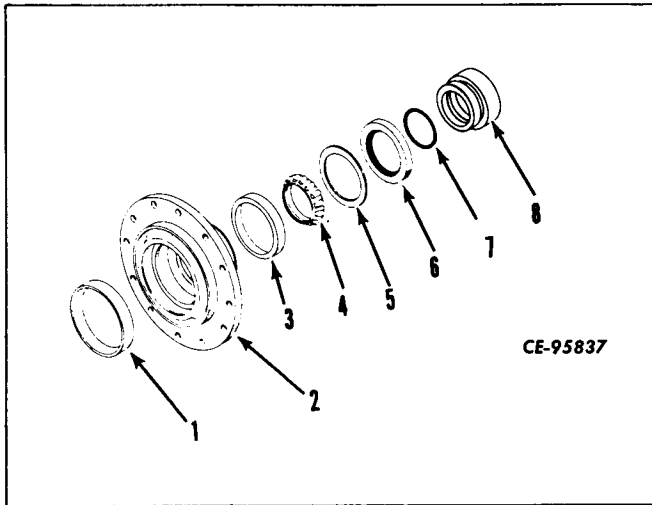

Figure 6-72
Remove and discard "O" ring (7, Fig. 6-72) from groove in seal retainer (8). Pry out and discard hub seal (6). Remove spacer (5).
Dip cones in light oil and check for wear, flat spots or other damage. If cup or cone is damaged replace complete bearing. If replacement is required, press the damaged cup(s) (1, 3, Fig. 6-72) from the hub.
If bearing cup(s) (1, 3, Fig. 6-72) were removed, press new cups in hub (2). Be sure cups bottom on shoulder of hub. Lubricate bearing cone (4) with new axle lubricant (refer to "LUBRICANTS AND CAPACITIES") and install it in bearing cup (3) in hub.